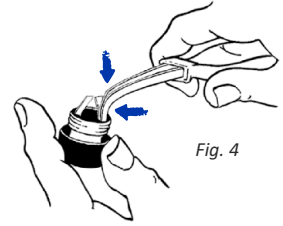

Fig. 4
- For reduction of the spring pressure** push slightly both leaves of spring together – see Fig. 4. Points of pliers must be inserted between the baton spring guide cap side and spring leaf.